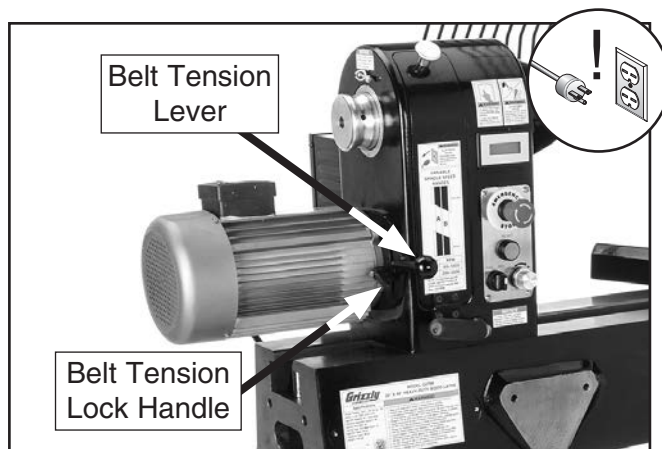

Figure 40. Belt tension lever and lock handle.
3. Loosen belt tension lock handle (see **Figure 40**).
4. Use belt tension lever (see **Figure 40**) to lift motor assembly all the way up, then re-tighten belt tension lock handle—this will hold motor in place while you change belt position.